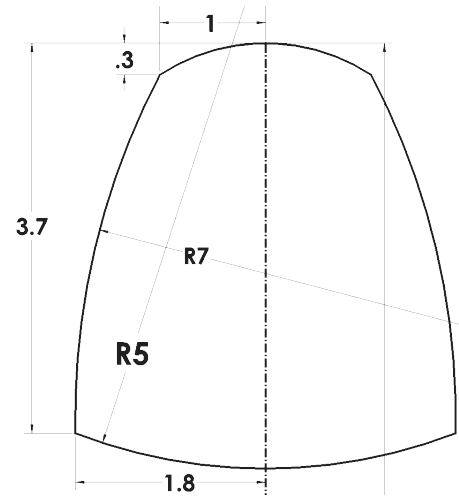

Fig. 10
Step 5. Click **Smart Dimension**  (S) on the Sketch toolbar.
Step 6. Dimension bottom arc **5**, Fig. 10.